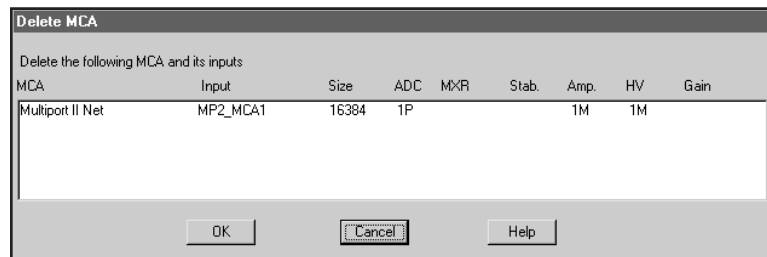

Figure 12 The Delete MCA Dialog
2. Clicking on the **Delete MCA** command in the **Edit** menu to see the “Delete MCA” Dialog Box in Figure 12. Click on **OK** to remove the entry.